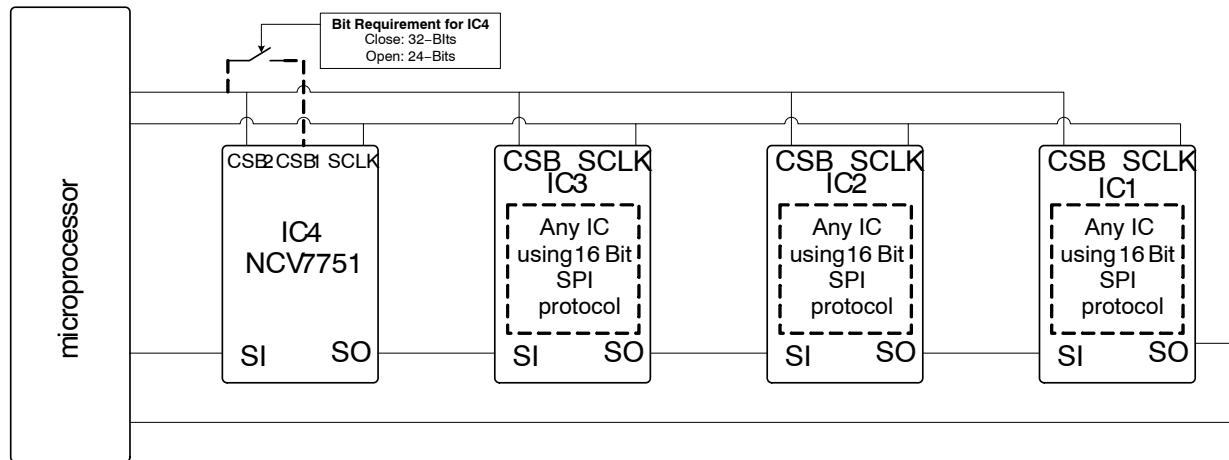

Figure 27. Serial Daisy Chain
Daisy chain setups are possible with the NCV7751. The serial setup shown in Figure 27 highlight two daisy chaining configurations with the NCV7751:
1. Either tying (switch closed in Figure 27) or stimulating the CSB1 and CSB2 signals together
2. With only CSB2 pin (switch open in Figure 27)
Table 5 refers to the progression of data over time of the Serial Daisy Chain setup of Figure 27 with the switch closed as word bits are shifted through the system. 80 bits are needed for complete transport of data in the example system. Each column of the table displays the status after transmittal of each word (in 16 bit increments) and the location of each word packet along the way.